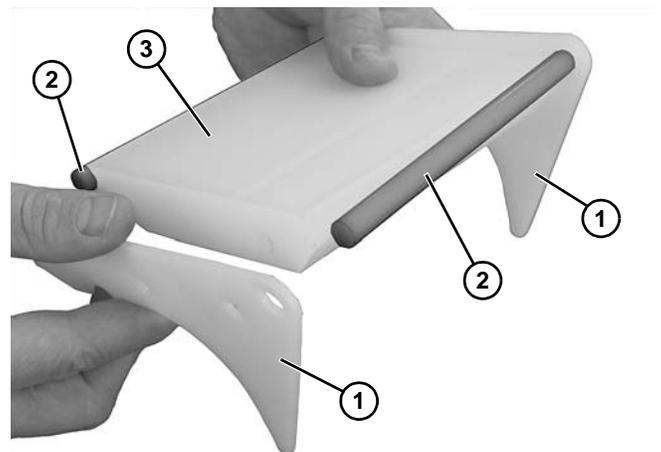

Figure 66
11. Disassemble side guide plates (Figure 66, item 1), wear rods (Figure 66, item 2), and wear bar (Figure 66, item 3). Replace worn components.